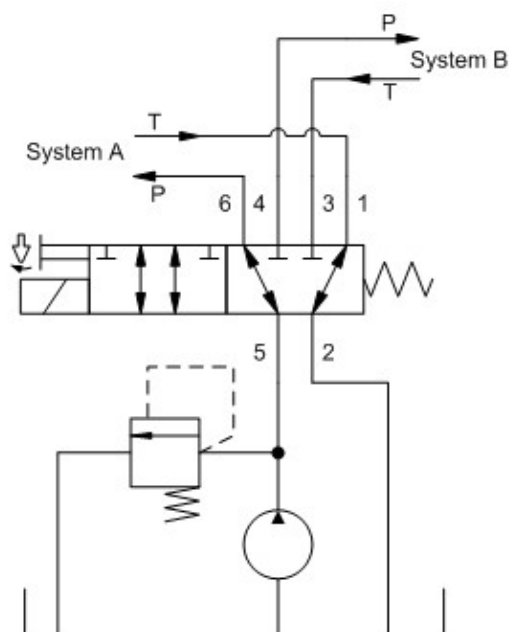

Figure 13.
- The ability to select two different circuits being supplied by one pump represents another application. (See Figure 13.)